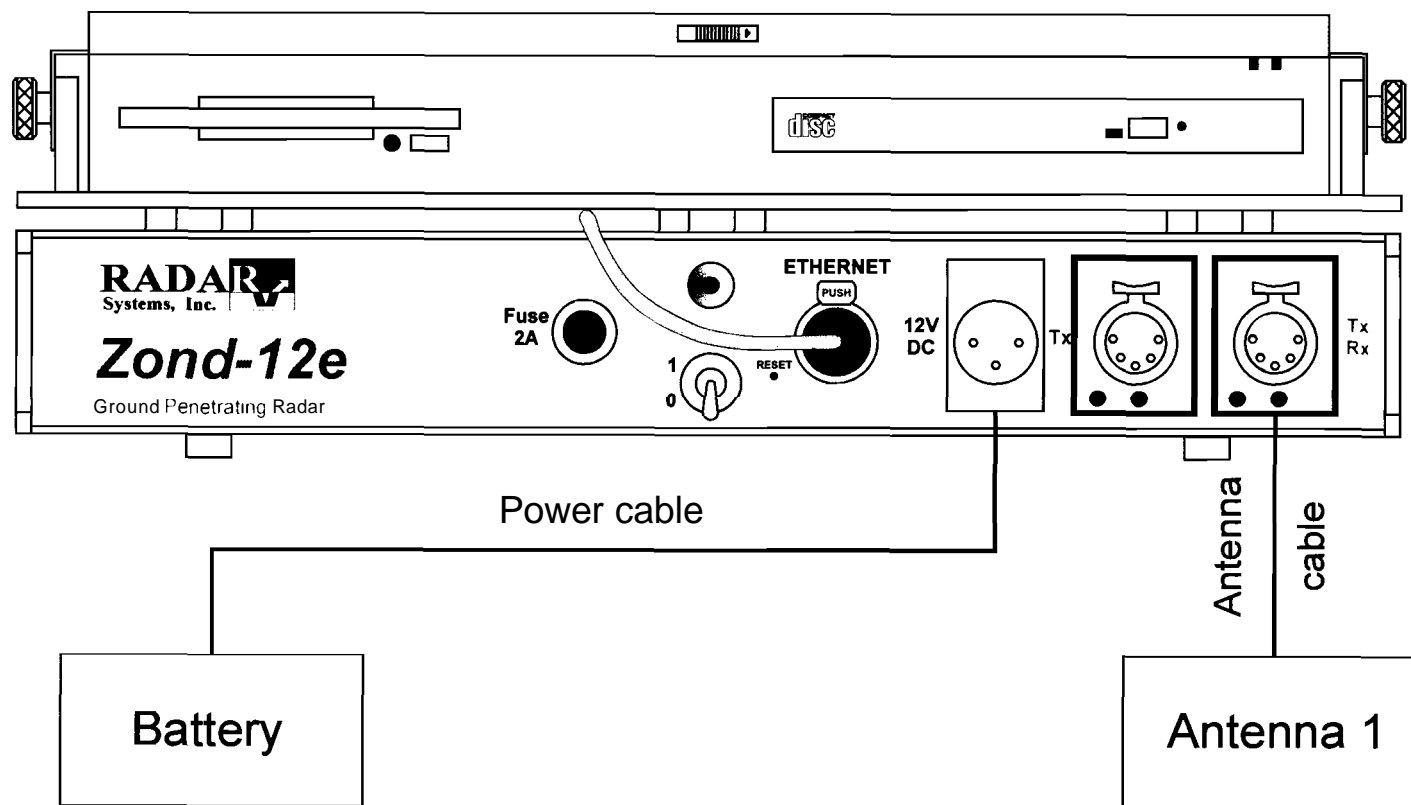
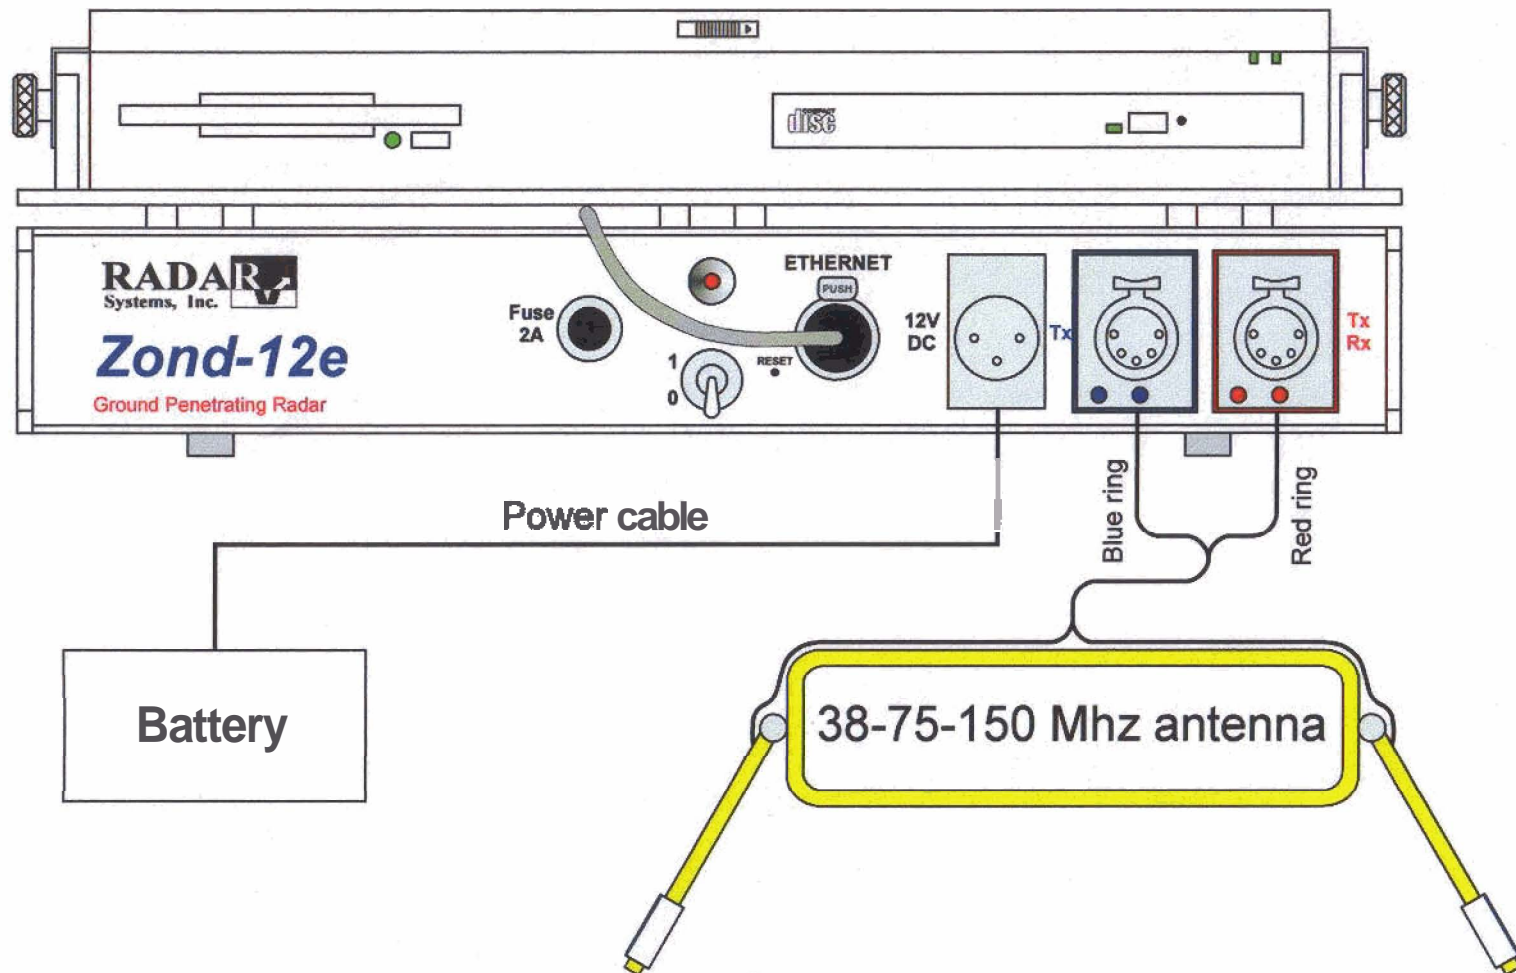
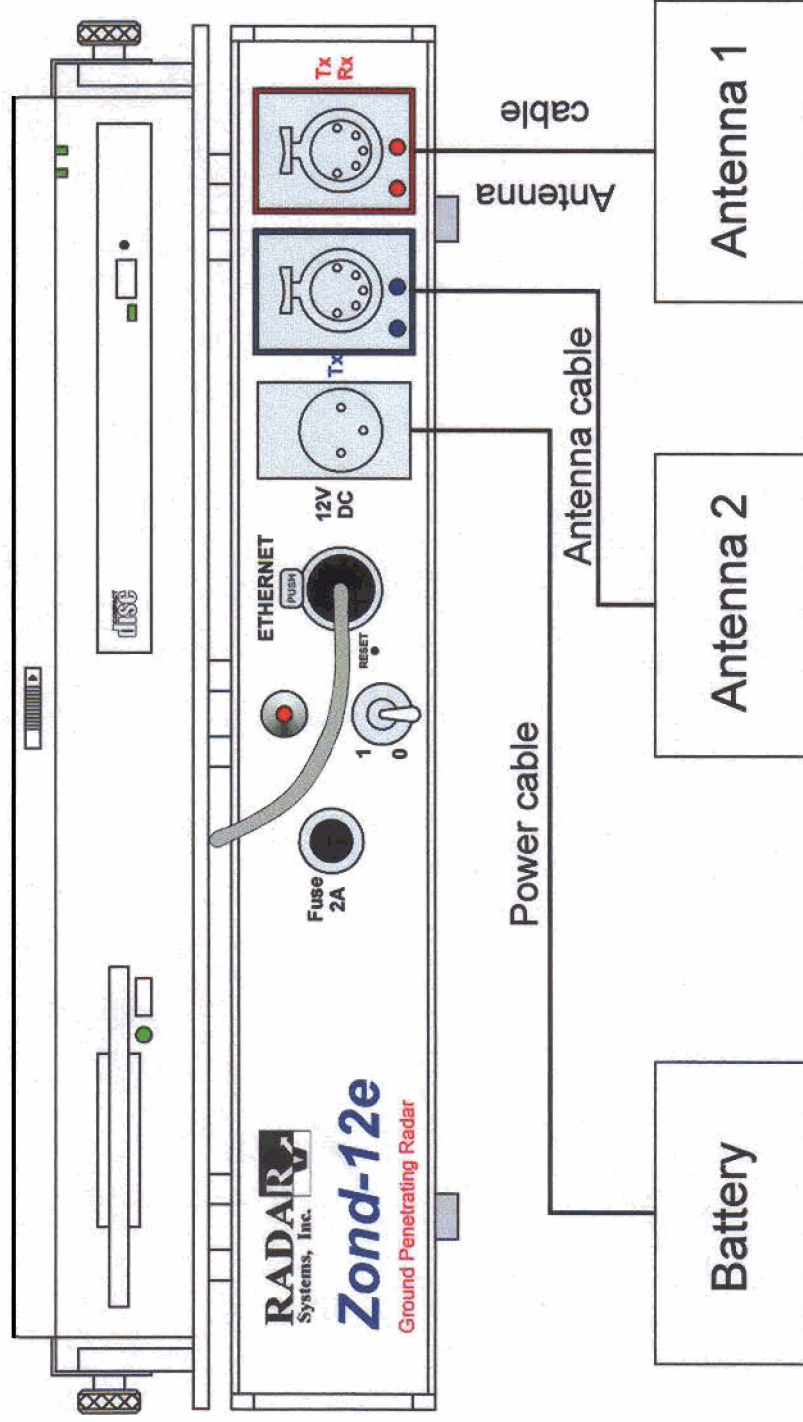
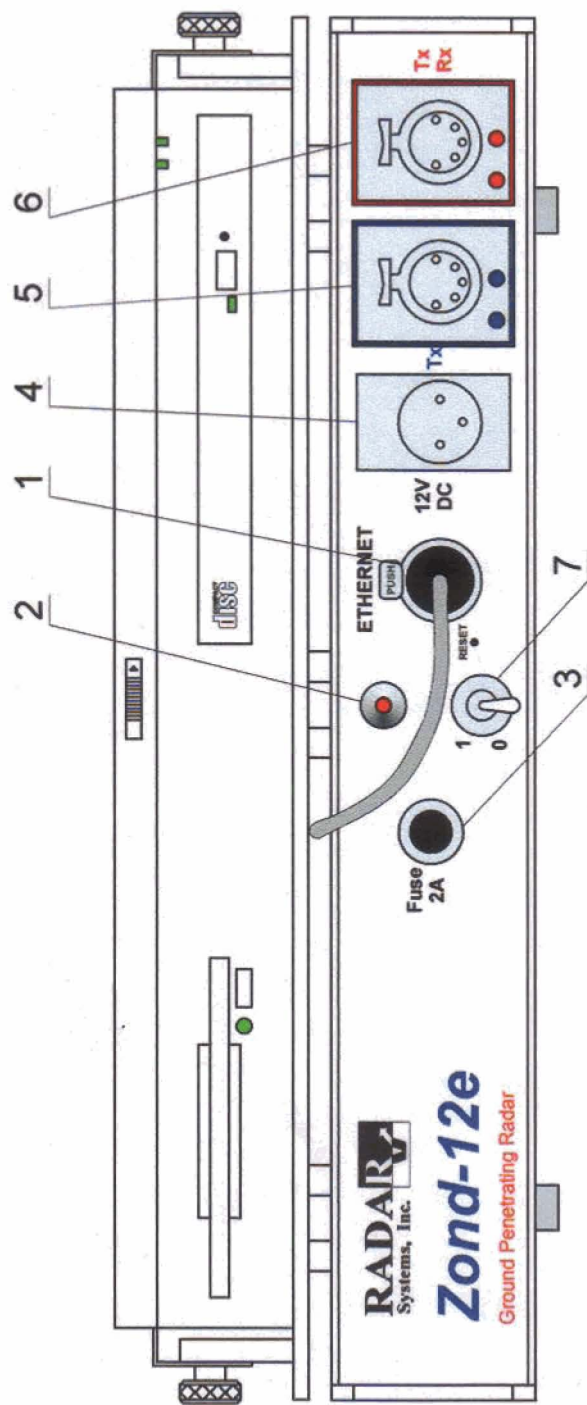

Fig. 1. Schematic drawing of Zond-12e system components connections using high frequency antenna.
Fig. 1a. Schematic drawing of Zond-12e system components connections using low frequency antenna.
Fig. 1b. Schematic drawing of Zond-12e system components connections using separated antennas for receiving and transmitting.
Fig. 2. Controls and connectors of Zond-12e georadar.
The georadar “Zond-12e” in operating condition consists of four units: the control unit, the Notebook computer, the antenna and the battery (see Fig 1). The computer is mounted on the special platform on top of the control unit. They are connected by the cable with pin specification shown on Fig.14. The control unit is operated by direct current of voltage 12 V supplied by the battery or a regulated rectifier. The antenna and the control unit are connected by the antenna cable as it is shown on Fig.1. If antenna has two connectors (antenna 38-75-150 MHz) they are marked with red and blue labels (see Fig.1a). Using of two separated antennas for transmitting and receiving are shown on Fig.1b where transmitting antenna is connected to blue connector but receiving antenna to red one. Description of controls and connectors of Control Unit is on Fig.2. Hereafter are presented brief specifications of different units of the georadar.
Control unit. The circuit diagram of the control unit is shown in Fig.2. Brief description of controls of the control unit is presented on page 9. Packaging of the unit is shown in Fig.13.
Before to begin to make any connections and switching on please read thoroughly the instructions below and strictly follow them when connecting units of the georadar. The connection diagram of units is shown in Fig. 1, 1a and 1b.
2) Connect the data communication cable to the control unit and to the LAN connector of the computer as shown in Fig. 1.
5) Connect the antenna to the control unit. Usually one antenna unit is used for profiling because it contents both transmitting and receiving antennas. In case when separated antennas for transmitting and receiving are needed (for example in measurements by Common Depth Point method) the second antenna is connected to the Control Unit as it is shown in Fig1.b. In this case antenna 1 transmits but antenna 2 receives signals.